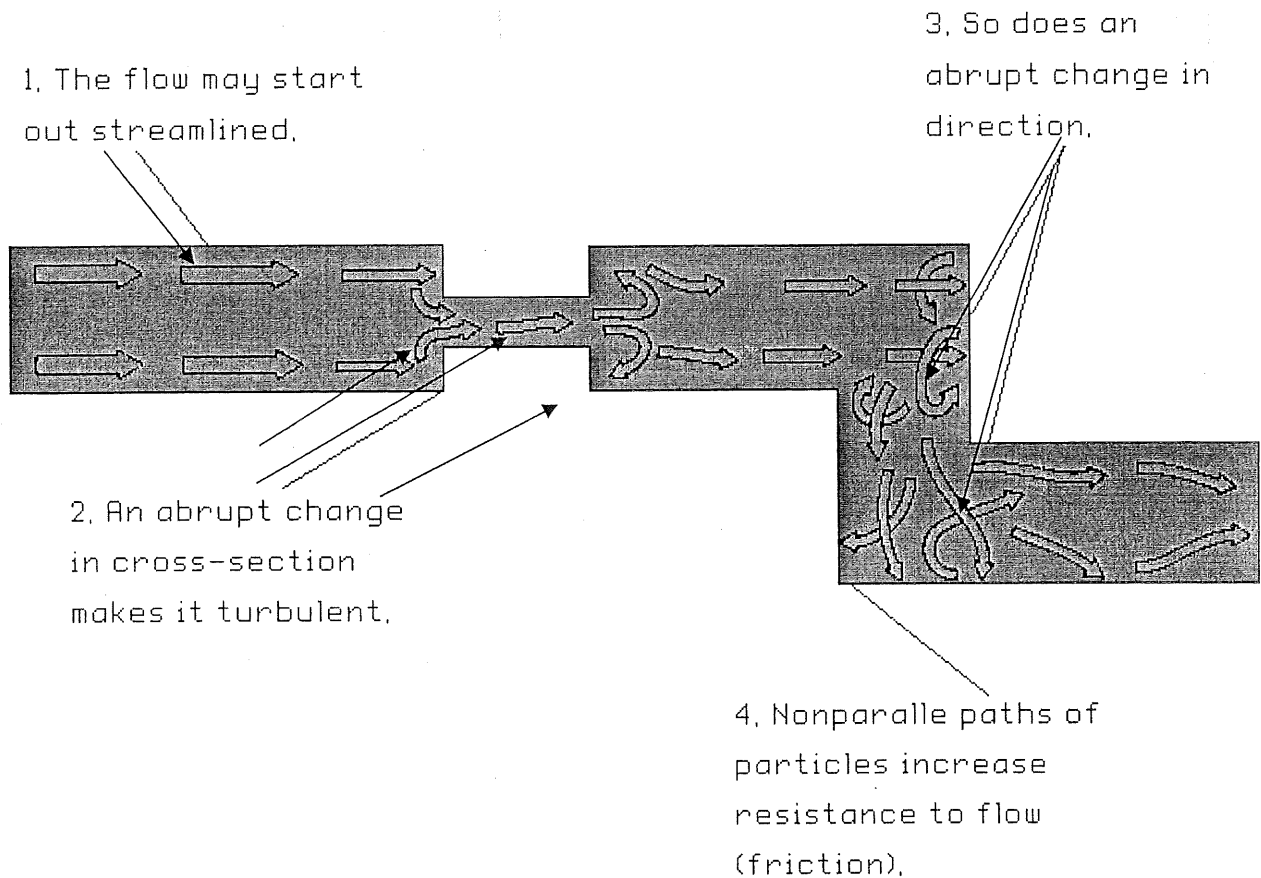

Figure 2
a) Figure 2 shows the state of the hydraulic fluid as it flows inside, a conductive tube whose shape can cause turbulence of fluid flow, explain a method to reduce this turbulence.